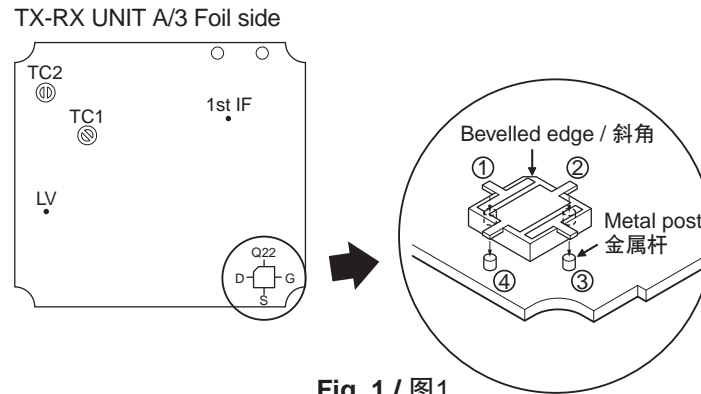

Fig. 1 / 图1
1. Place Q22 in its location, upside down as shown in figure 1. Make sure the location of each pin is correct. The bevelled edge is located between pin 1 and 2. (See the figure below) Replace the heat conductor sheet (G11-2664-x4) when replacing Q22.
1. 如图1所示，将Q22上下颠倒放在它的对应位置。每个管脚的位置一定要正确。斜角位于管脚1与管脚2之间。（如下图所示）当置换Q22时，重置热导膜（G11-2664-x4）。